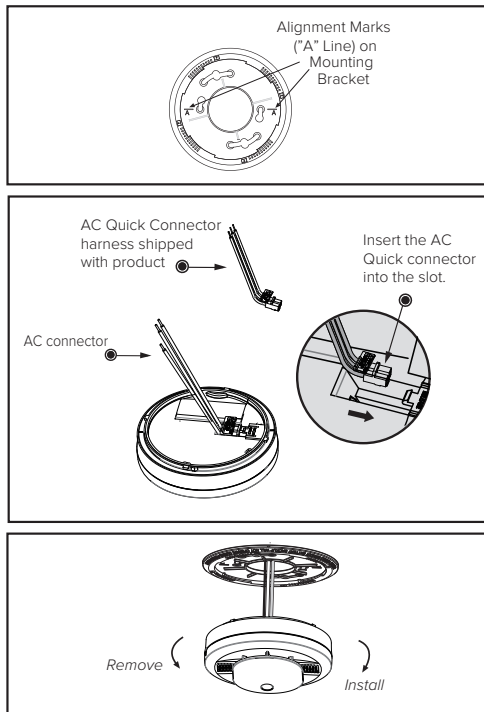

Figure 9-F
- For best results to minimize nuisance alarms, interconnected alarms should be on a dedicated line. If not on a dedicated line, it is suggested that the smoke alarms share a lighting load circuit that does not have a dimmer associated with it. If receptacles must be placed on the same line it is suggested that they be placed ahead of the smoke alarms (see Figure 9-E). This will prevent large voltage drops from occurring between the first and last alarm in the circuit.
- After selecting the proper location for your alarm, and wiring the AC QUICK CONNECTOR harness as described previously, attach the mounting bracket to the electrical box. To ensure aesthetic alignment of the alarm with the hallway, or wall, the "A" line on the mounting bracket should be parallel with the hallway when ceiling mounted, or horizontal when wall mounted. (See Figure 9-F)
- Install the alarm fully on the mounting bracket by rotating the alarm in a clockwise direction. (see Figure 9-C for orientation)